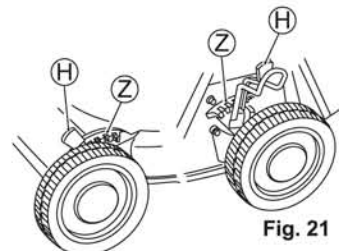

Fig. 21
2. Lean the mowing height adjustment lever (H) toward the wheel side, separating from the notches (dents) (Z). (See Figs. 21 and 22)
3. Insert the mowing height adjustment lever (H) into the notch (Z) for the target height with the lever kept leaned.
4. Insert all Mowing height adjustment levers (H) into the notches (Z) of the same height.